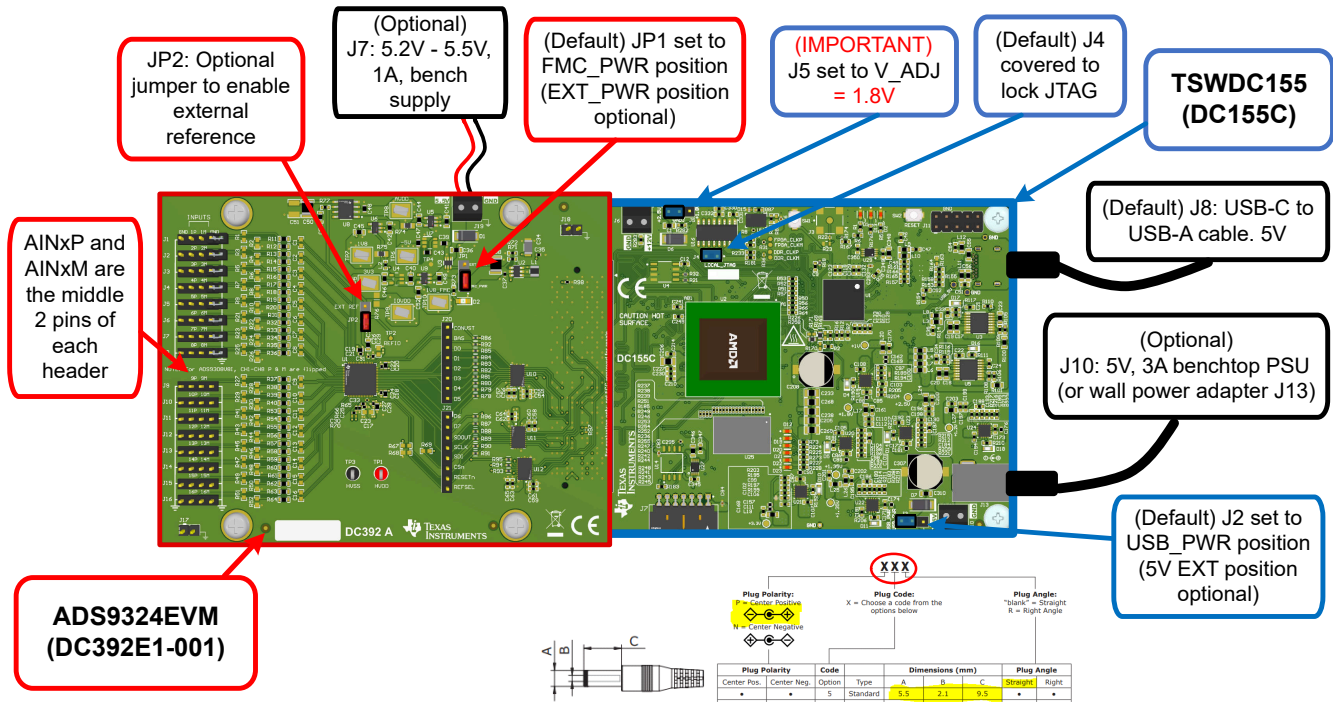

Figure 2-1. Connecting the Hardware
1. Review the default jumper settings in Figure 2-1 and the power guidelines in Section 2.4.1.